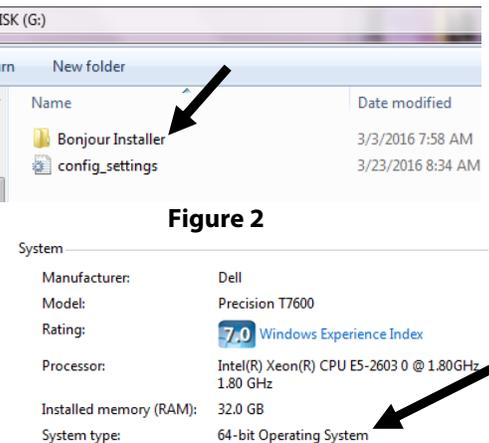

Figure 5
8. The system type will display either 32-bit or 64-bit operating system (see Figure 5). Close this window and return to step 7.